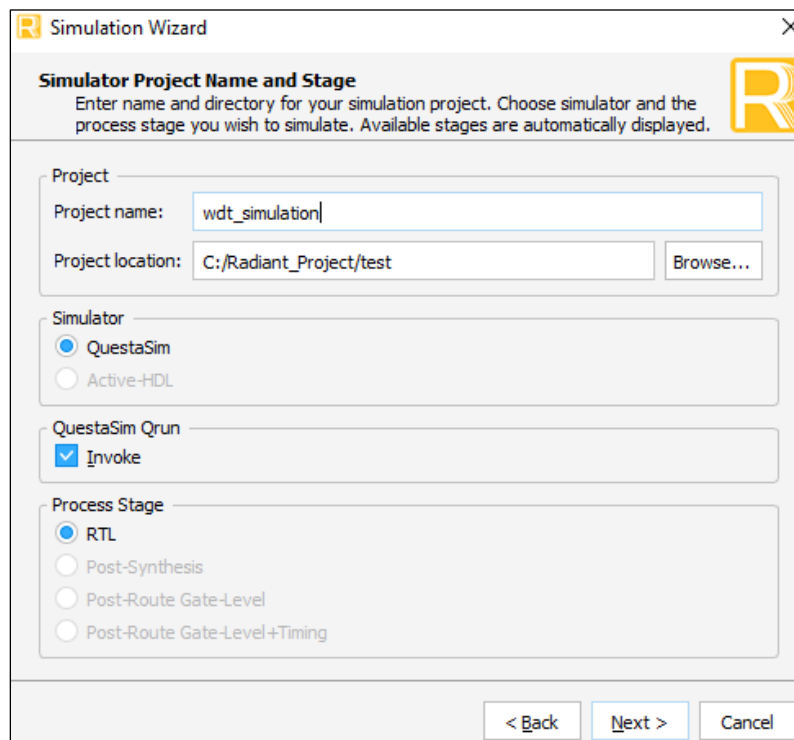

Figure 7.4. Simulation Wizard
1. Click the  button located on the **Toolbar** to initiate the **Simulation Wizard**, as shown in Figure 7.4.